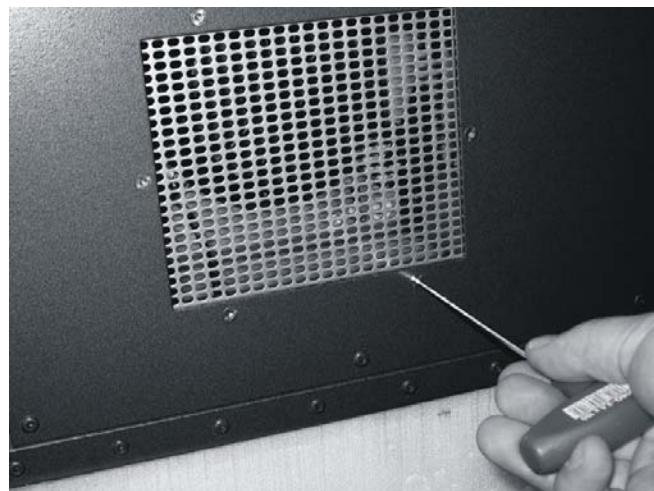

Figure 37: Removing the lower air intake grille
15. Use the 2.5 mm allen key to unscrew and remove the lower air intake grille (see Figure 37).
6. Use the 3 mm allen key to unscrew and remove the lower air intake grille (see Figure 37 on page 64).
3. Use the 2.5 allen key to remove the lower air intake grille (see Figure 37 on page 64).